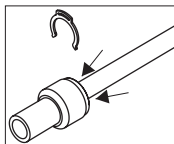

Fig. 2
- 2) Press the flange of the quick connector in an even and symmetrical manner (fig. 2).